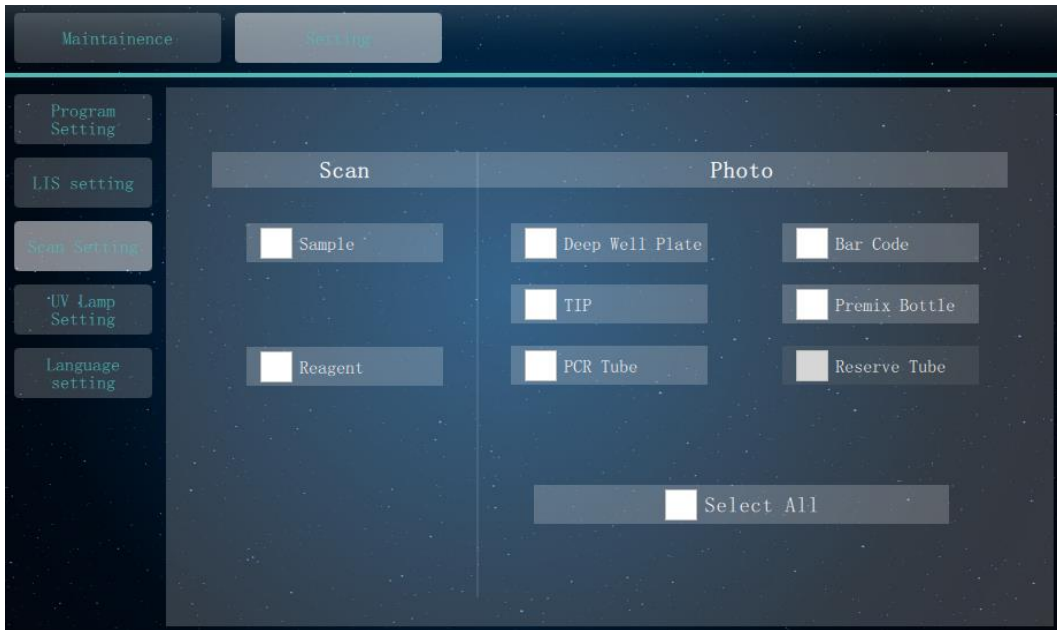

Figure 5-14c. Setting Subtab – Scan Setting
3. < **Barcode Setting** >: User can click this function key for barcode settings, as shown in figure 5-14c. User can check the check box of **Sample scan** or **Reagent scan** to open corresponding barcode scanning function.